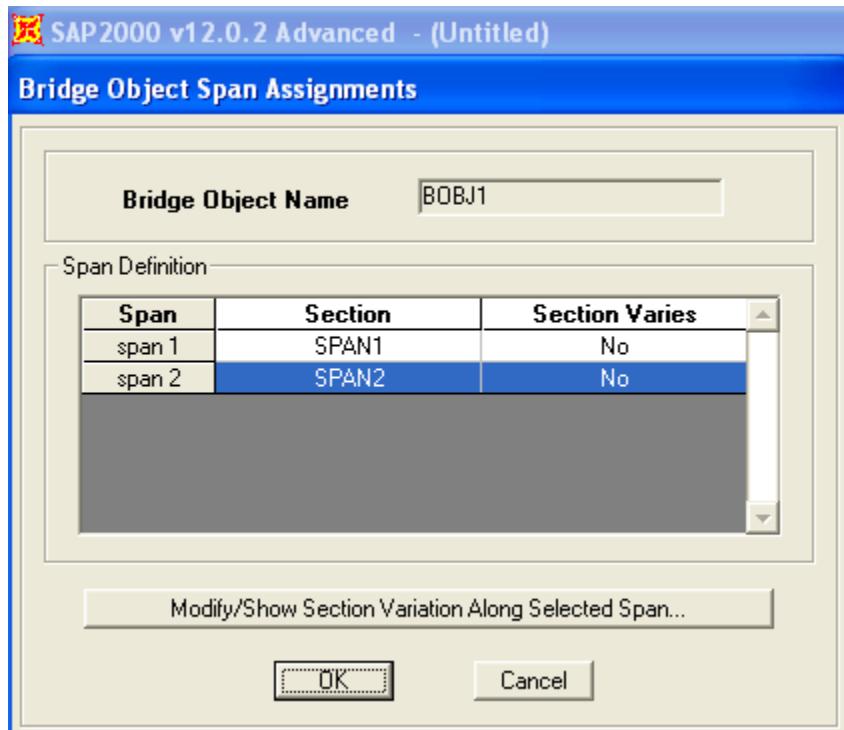

Figure 3 - Span assignments
- Use the Bridge > Bridge Objects > Modify/Show Bridge Object > Modify/Show Assignments, Spans menu command to assign the previously-defined bridge deck sections SPAN1 and SPAN2 to the first and second spans of the bridge object, as shown in Figure 3: